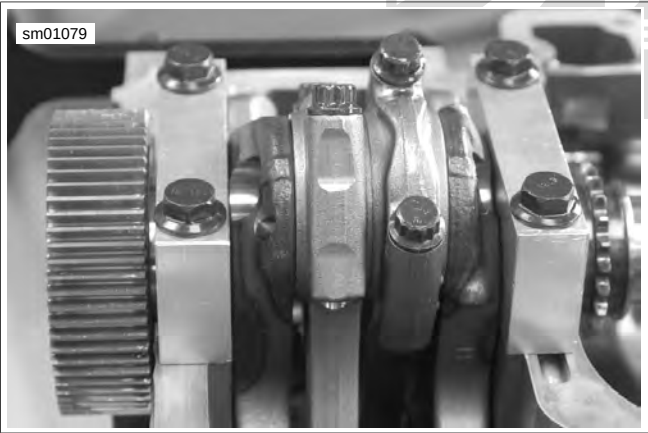

Figure 3-97. Install Crankshaft Assembly Retainers
1. See Figure 3-97. Install CRANKSHAFT ASSEMBLY RETAINER (Part No. HD-45316).